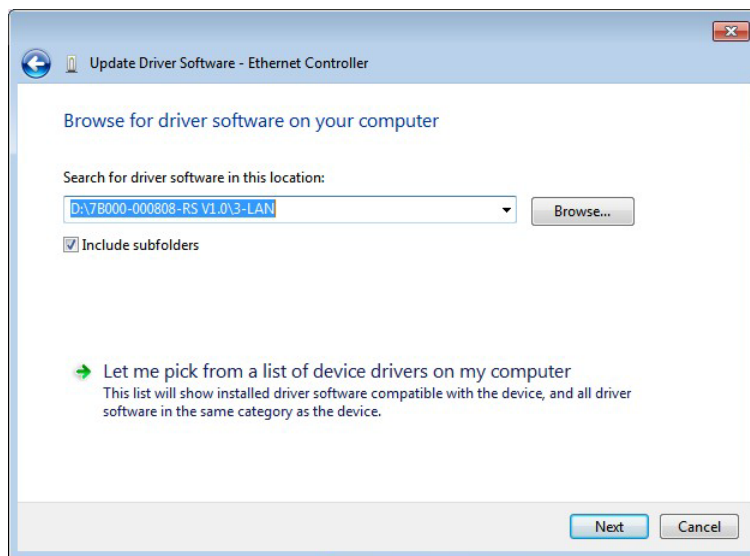

Figure 6-16: Locate Driver Files
Step 9: Click Browse to select “X:\3-LAN” directory in the **Locate File** window, where “X:” is the system CD drive. (**Figure 6-16**).